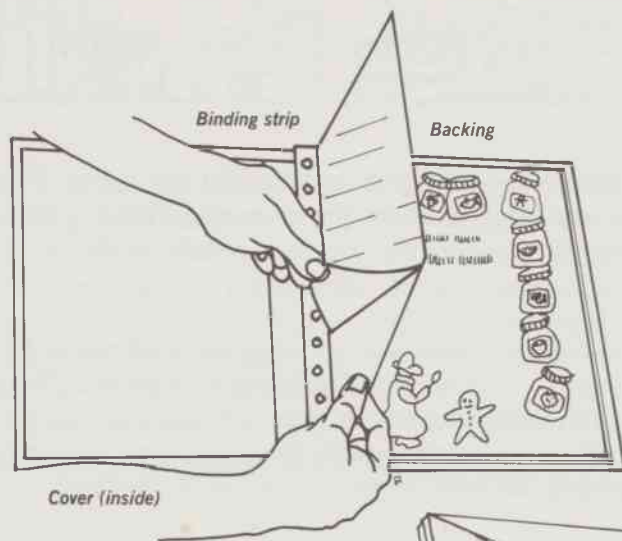

Figure 16.
- g. Open your book and carefully peel away the backing from the pressure-sensitive sheet at the beginning of the page set. You can use the binding strip to tear the backing from the pressure-sensitive sheet (Figure 16).